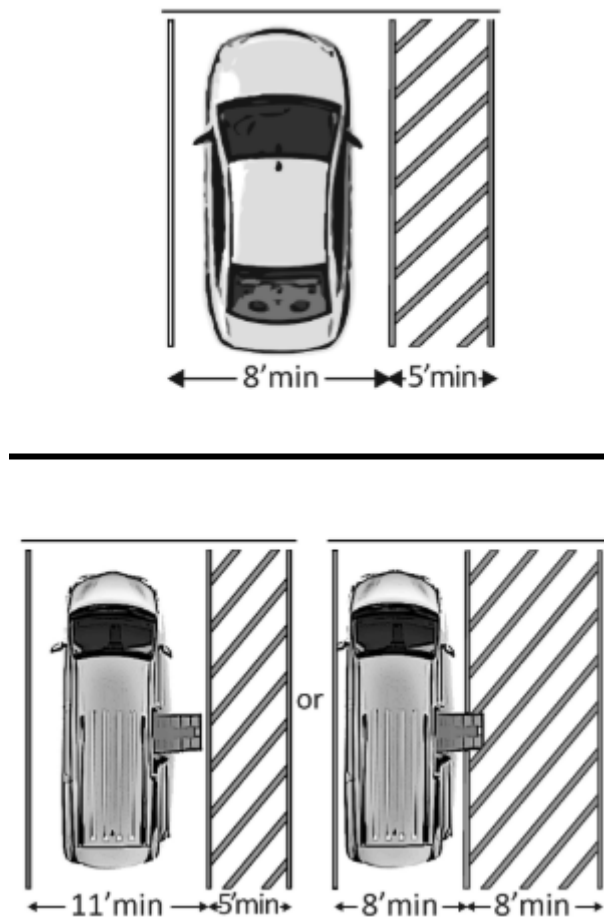

Figure 1: Accessible Parking Space & Access Aisle Configuration (Top)
- **Dimensions:** Standard car accessible spaces must be **8 ft (96") wide** with an **5 ft (60") wide access aisle** adjacent. **Van-accessible** space options per ADA: either **11 ft space + 5 ft aisle** or **8 ft space + 8 ft aisle**. The access aisle (striped area) allows wheelchair lift deployment and passenger loading. *If you have only one accessible parking spot, it **must** be van-accessible.* (See Figure 1 for photo).